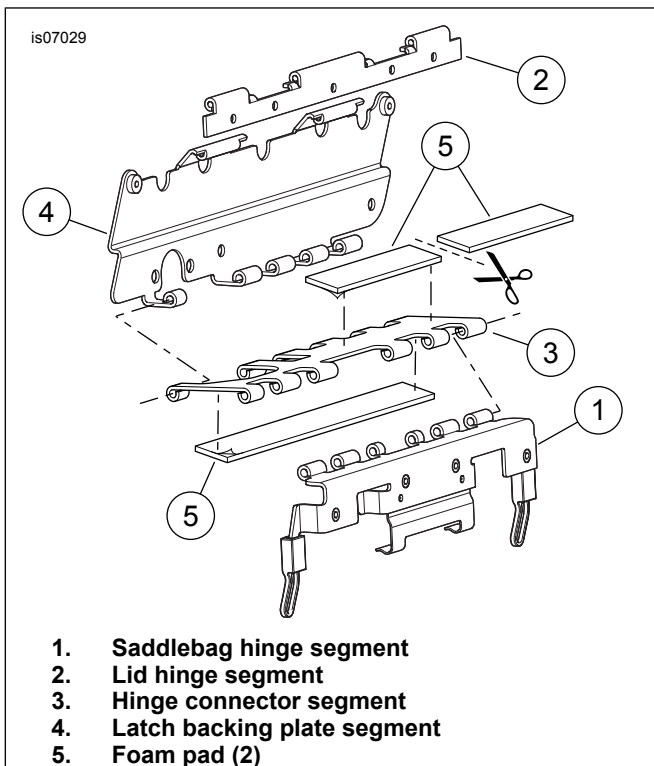

Figure 4. Install Foam Pads to Saddlebag Latch Hinge (Left Side Shown)
See Figure 4. The saddlebag latch hinge is shown with the pins removed for clarity.
15. Get two foam pads (Figure 7, Item 12) from the kit. Cut one piece in half as shown in Figure 4. Remove the liner from the adhesive backing of the **uncut** pad and affix to the flat side of the latch hinge connector segment (3). Remove the liner from the adhesive backing of one cut pad and affix to the hinge side of the latch connector segment as shown.